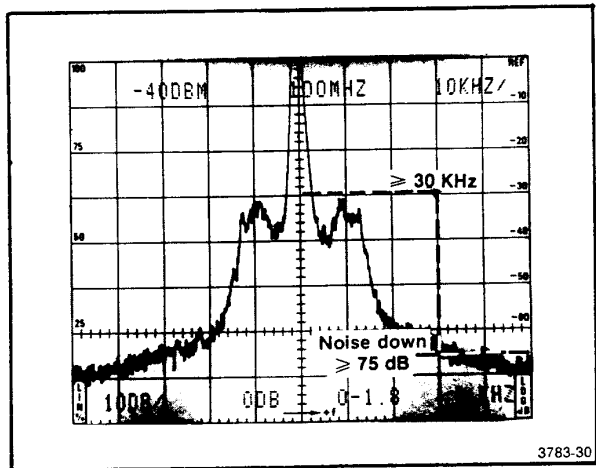

Fig. 3-16. Typical display of phaselock noise.
d. Increase the REF LEVEL 20 dB to  $-40$  dBm to position the signal peak 20 dB above the reference line. Check the amplitude of the noise sidebands 30 times the resolution bandwidth away from the signal (see Fig. 3-16). Noise sidebands should be 75 dB or more below the peak signal level or 55 dB below the top of the screen.